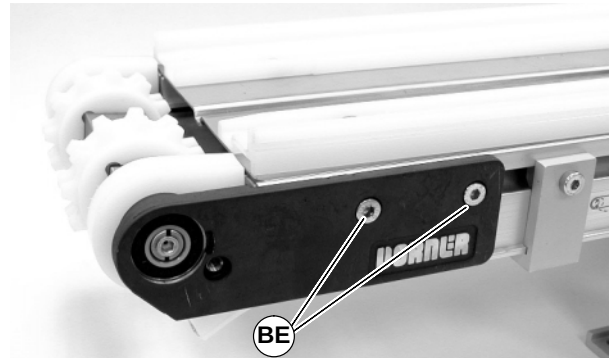

Figure 55
5. Install pulley assembly on conveyor. On both sides of conveyor, tighten screws (BE of Figure 55) to 60 in-lb (7 N-m).